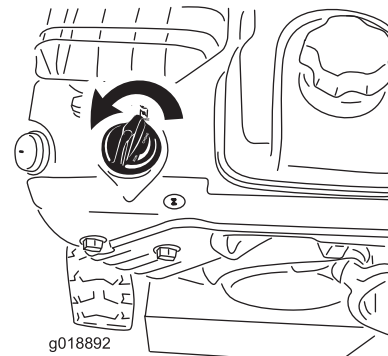

Figure 23
5. Rotate the choke to the CHOKE position (Figure 23).